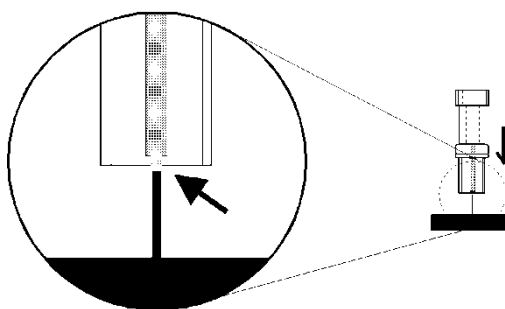

Fig. 24. Pushing the cotton wool frit out.
1. Use a drill of ± 1 mm (0.039 inch) to push out the frit from the outside (Fig. 24). Be careful not to damage the frit constriction (first arrow).